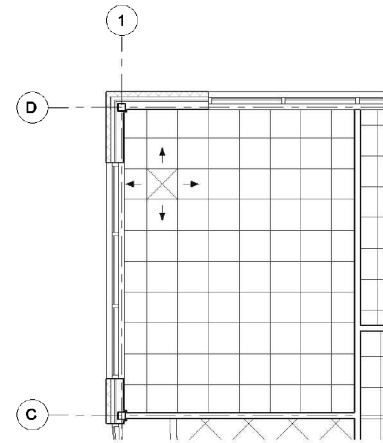

FIGURE 13-3.4 Diffuser placed
9. **Click** within the room to place the diffuser, and then use the *Align* command to reposition the diffuser as shown in Figure 13-3.4.